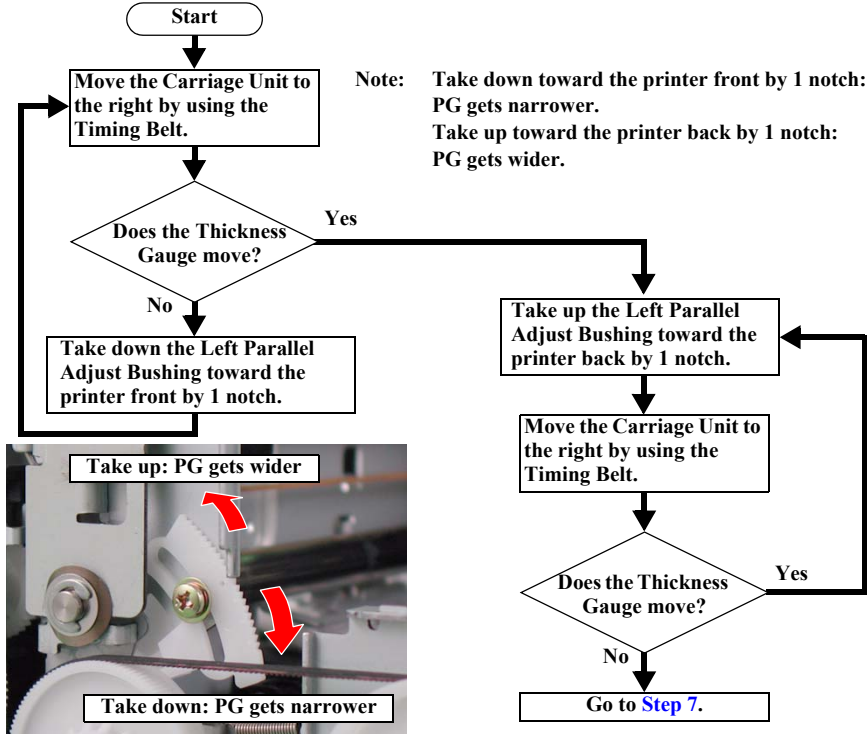

Figure 3-9. PG Adjustment (Left Side)
6. Implement PG Adjustment on the left according to the flowchart in the Figure 3-9.